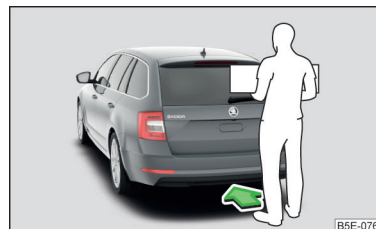

Fig. 60
► To **open/close**, move one foot in the sensor area below the rear bumper quickly in the direction of the arrow » Fig. 60.